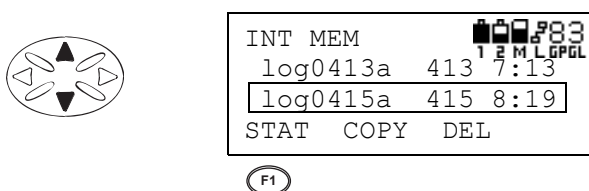
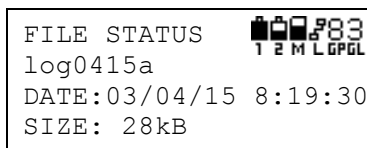

Figure 3-95. Scroll through Files and Press F1 to Select
Figure 3-96. File Information
- Press the **up/down cursor key** to scroll through the files (Figure 3-95).
- Once the desired file is selected, press **F1** (STATUS) (Figure 3-95) to display the file's details: file name, date, and file size (Figure 3-96).